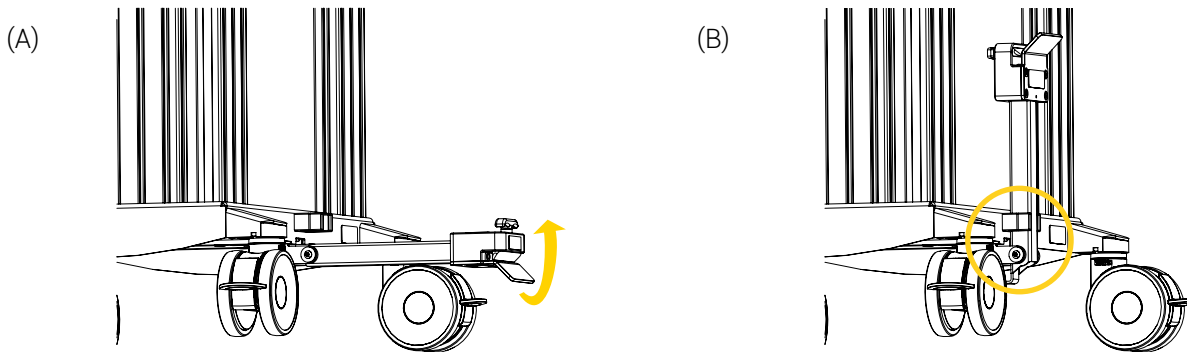

Figure 18 : Pivoting the fold-up hitch
4. Pivot the fold-up arm upwards until it has reached its final position, then press on the arm to insert and secure the arm in its clip using your foot (Figure 18).